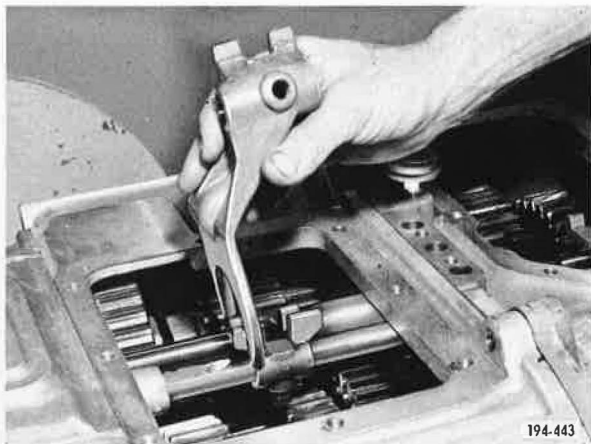

Figure 4. Removing Fourth and Fifth Speed Shifter Fork
4. Remove shifter and shifter fork set-screws. Withdraw shift rails from front case and at the same time remove shifter forks and shifters. See Figure 4.